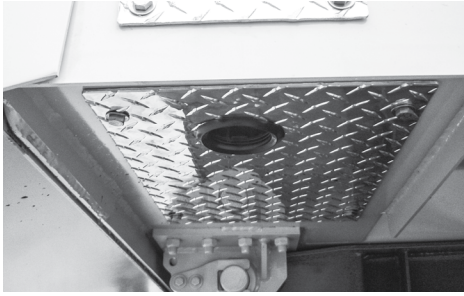

Figure 20
This trailer is equipped with zero maintenance Dry Slide self-lubricating bushings in all the main pivot bushings. This includes the dump hinges (2), suspension frame assembly (4), A frame assembly (4), Tailgate pivot bushing (2) (Figure 20). These bushings should be inspected periodically to ensure that due to excessive wear, movement is not allowed between the pin and metal bushing. If this occurs refer to dealer for bushing replacement.
The trailer is equipped with a heavy duty multi-stage hydraulic lift cylinder (Figure 20). The lower pivot pin requires greasing daily (10 hours operation) through a grease hose fitting located on the fifth wheel assembly. The upper pivot pin is equipped with a zero maintenance spherical bearing that does not require periodic greasing. Daily inspection of these pivot location and the entire cylinder is required to detect any damage that may occur. Do not operate the dump function of the trailer if there is any damage to the cylinder as personnel injury or equipment damage could occur. Refer to dealer for any required service if damage is detected.